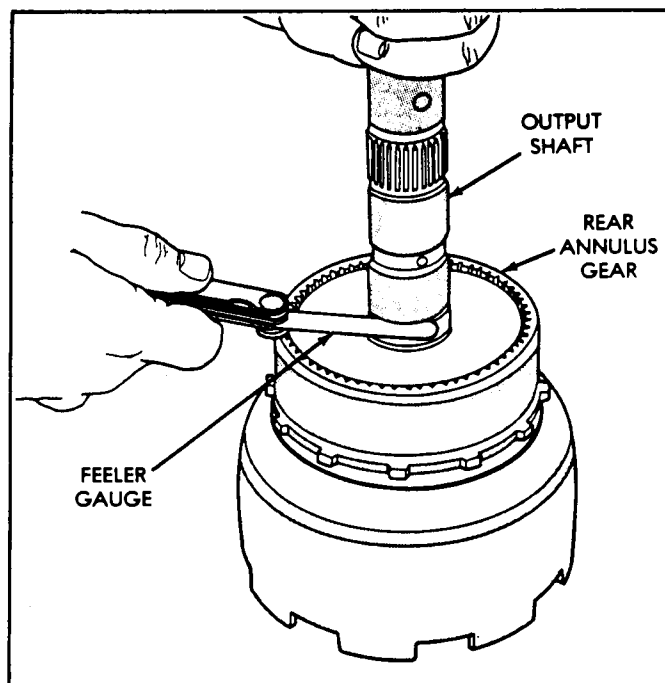

Figure 87
23. Turn the planetary geartrain assembly over so driving shell is facing bench, as shown in Figure 87.
24. Then support geartrain on wood block positioned under forward end of the intermediate shaft. This is necessary so geartrain parts will move up and down (See Figure 87).
25. Check planetary geartrain end-play with a feeler gauge as shown in Figure 87. Feeler gauge goes between the shoulder on intermediate shaft and the end of rear ring gear support (Figure 87).